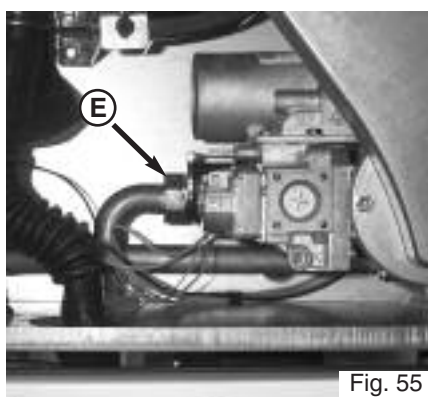

Fig. 55
7. Unscrew the gas valve nut **E** (Fig. 55);